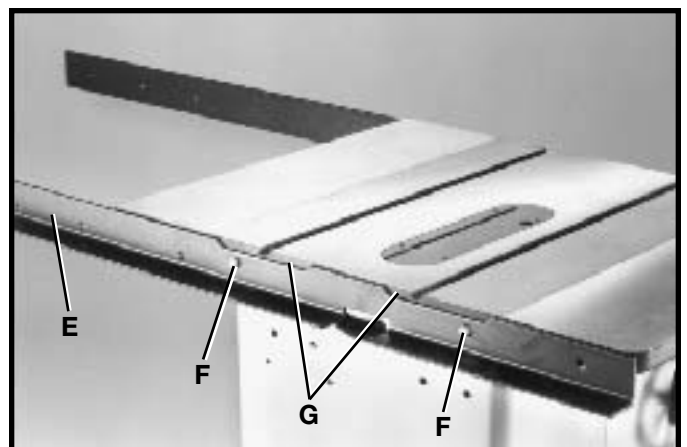

Fig. 14
3. Assemble rear rail (E) Fig. 14, to rear of saw table using the two 3/8-24 x 1-1/4 long hex head screws (F), 7/8 O.D. flat washers, and lockwashers as shown. **NOTE: When mounting, the two screws (F) are threaded into the threaded holes in the saw table, as shown.**
4. Make certain top edge of rail (E) Fig. 14 is below table surface and that top edge of cut-outs (G) are below miter gage slots before tightening screws (F).